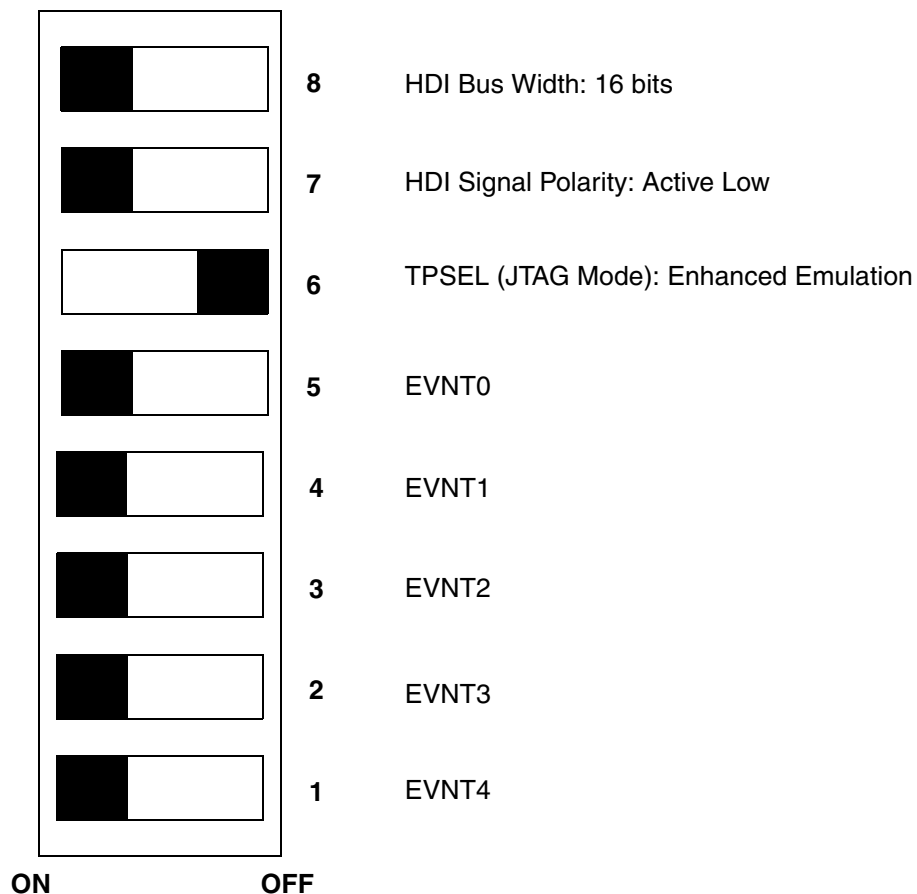

Figure 8. SW5 Settings for the MPC8272 Connection to the MSC7115 Device
- *SW5*. MSC711x Event Pins Configuration. **Figure 8** shows the SW5 switch settings.